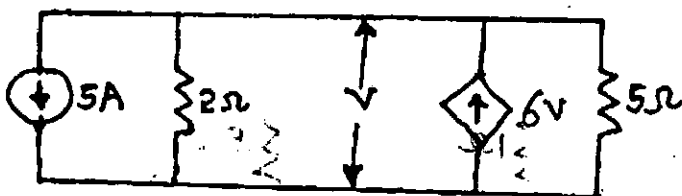

Fig. 4
- b) Find V in the circuit of Fig. 4. Also obtain the numerical value of the dependent source.